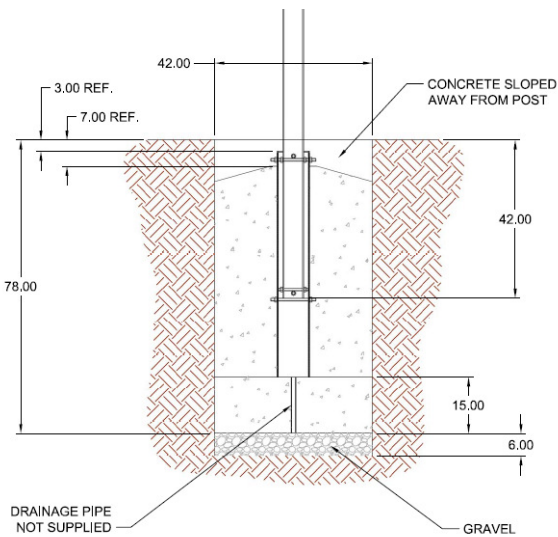
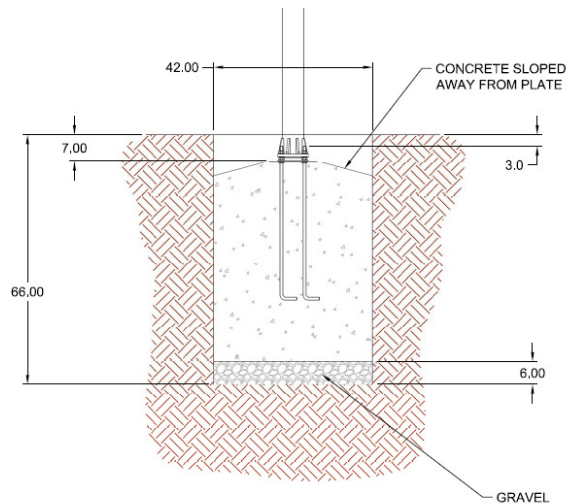

FIGURE 2
FIGURE 3
2. Dig hole as shown in Figure 1, Figure 2, or Figure 3 depending on the type of post installation required. Figure 1 shows dimensions for a permanent mounting, Figure 2 shows dimensions for ground sleeve mounting, and Figure 3 shows dimensions for the plate mounted goals.